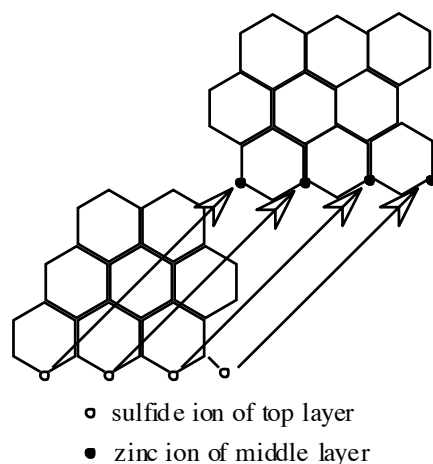

Fig. 6 Placing the top layer over the middle layer.
7. Now place each one of the sulfide ions of the top layer over a tube on a zinc ion of the middle layer, and push to form a bond. Fig. 6 below shows how to line up the top layer over the middle layer.